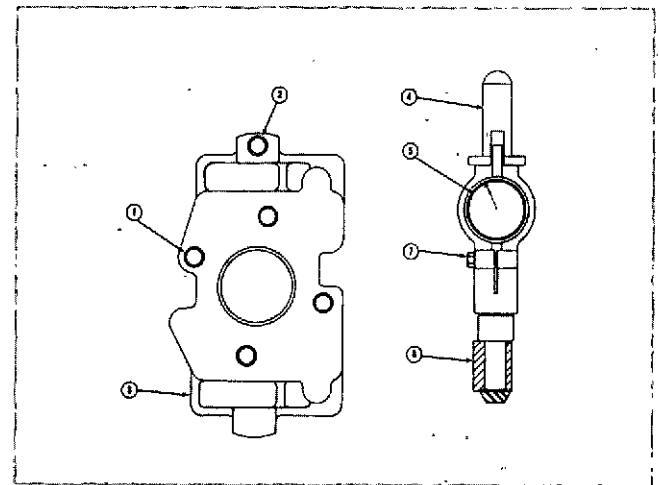

Fig. 1-1-31, V40158. Setting depth gauge
a. Install depth gauge (4, Fig. 1-1-31) into gauging hole (2) of adapter plate (3).